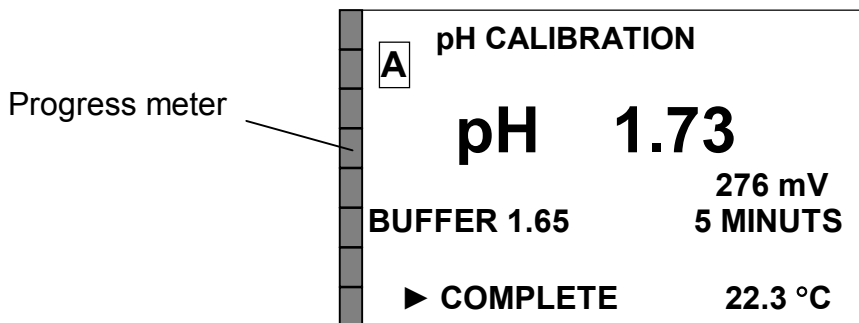

Fig. 2.16
- 9 If pH of the buffer solution is determined automatically, pH value shall appear and the progress meter shall be filled up. Once the progress meter is full, the display shown in Fig. 2.16 shall come up.